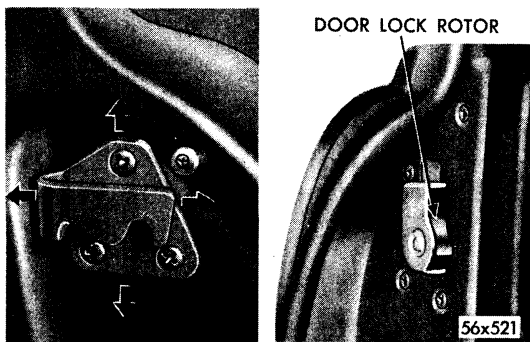

Fig. 12—Striker Plate Adjustment (Typical)
After door has been fitted properly to opening, adjust striker plate as necessary (Fig. 12).
d. Striker Plate Adjustment (Fig. 12)